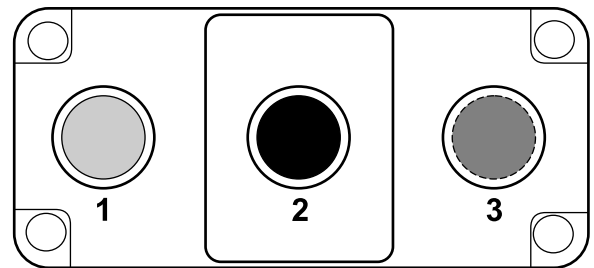

Figure 18
3. Identify the switch terminal locations, wire harness labels, and wire harness colors (Figure 18).
Note: The switch is spring-loaded to the rear of the switch (Figure 19). The switch is normally open between terminals 1 and 2 (Figure 18).
4. Secure the red wire labeled BYPASS ENGAGE SWITCH 2 on the switch wire harness to the override switch center terminal number 2 (Figure 18 and Figure 19).
5. Secure the gray wire labeled BYPASS ENGAGE SWITCH 1 on the switch wire harness to the override switch rear terminal number 1 (Figure 18 and Figure 19).